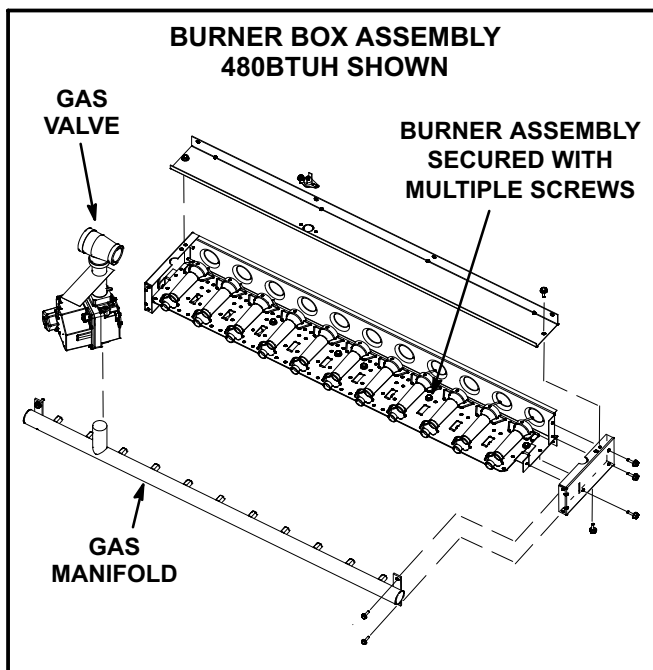

FIGURE 39
- 3- Remove screws securing burner assembly to burner support and remove assembly. See figure 39. Clean as necessary.